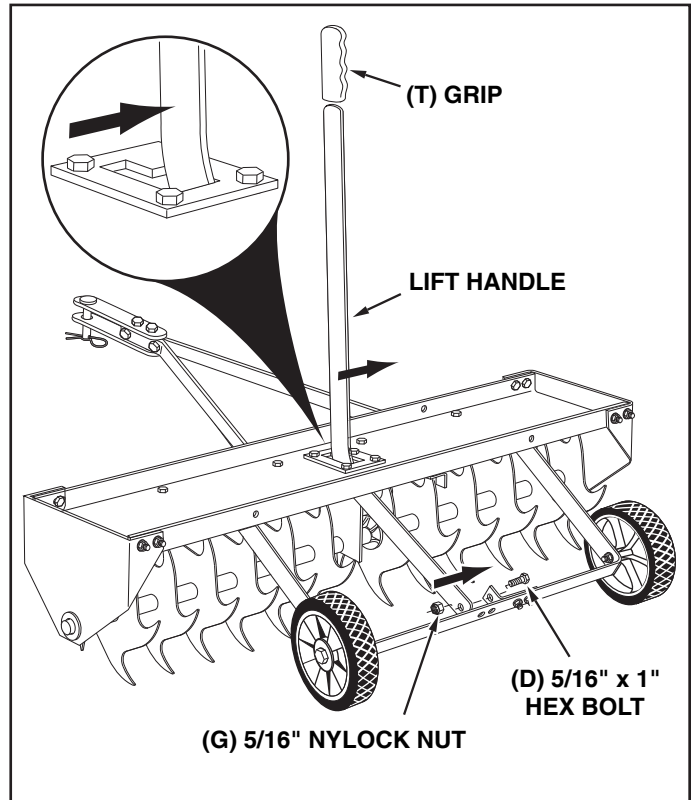

FIGURE 15 **REAR VIEW**
25. Assemble the lift handle through the tray and attach it to the hitch arm mount bracket assembled to the axle bracket. Use a 5/16" x 1" hex bolt (D) and a 5/16" nylock nut (G). **Tighten.** See figure 15.
26. Position the hitch arm mount bracket so that there is side tension on the lift handle when it is locked in the up position. **Tighten** the nuts. See figure 15.
27. Assemble the grip (T) onto the end of the lift handle. See figure 15.